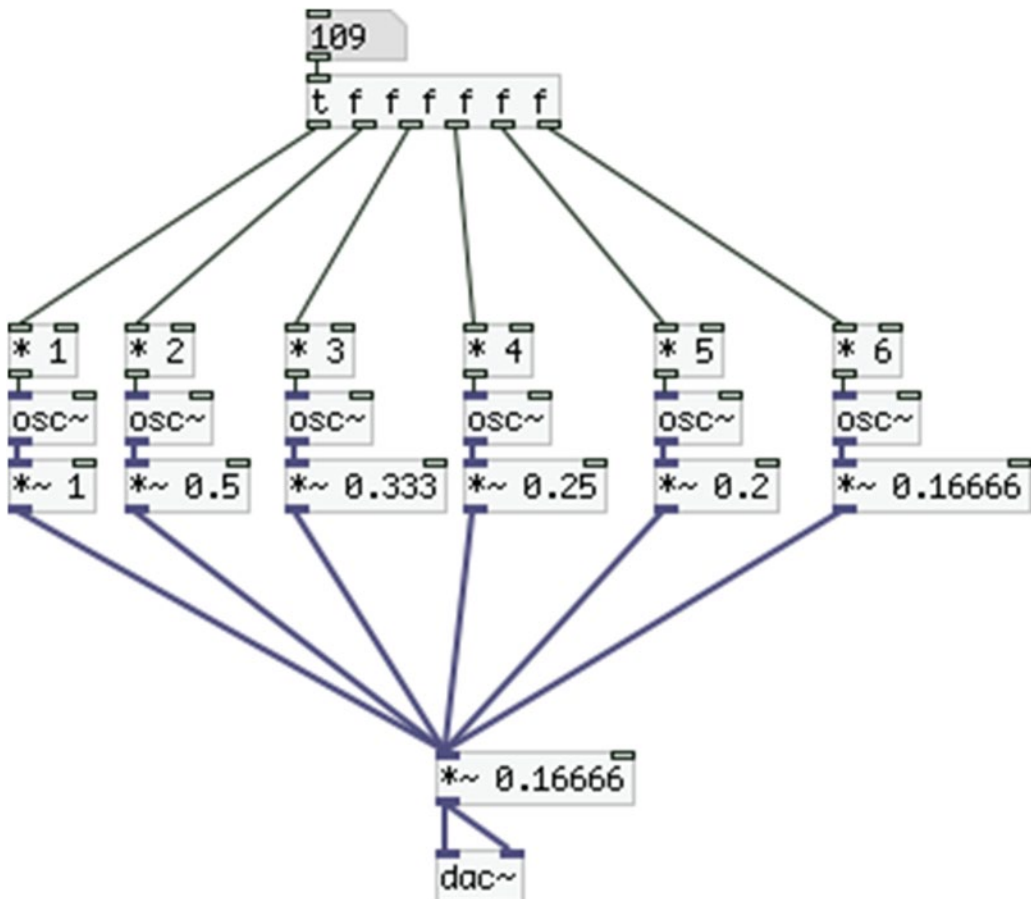
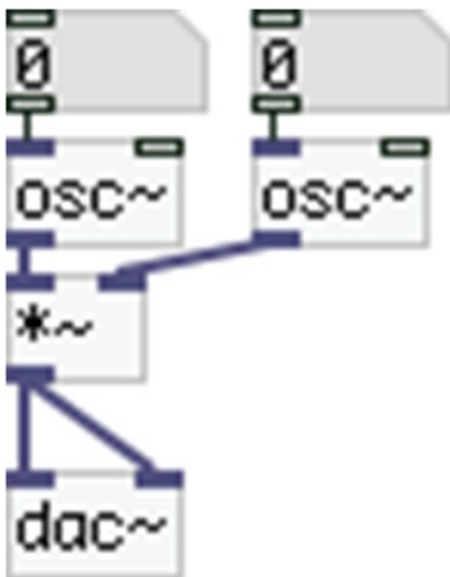
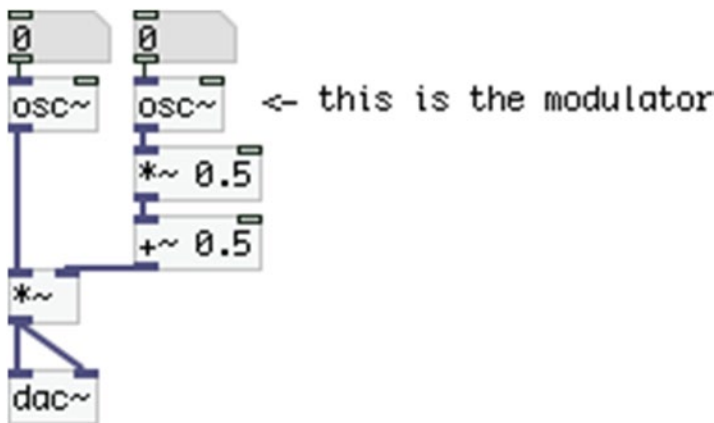

Figure 1-36. Additive synthesis Pd patch
Figure 1-37. A ring modulation patch
Figure 1-38. An amplitude modulation patch
The first technique we're going to look at is called *additive synthesis*, because we use many oscillators (usually sine waves) added together to create more interesting timbres. Figure 1-36 shows an additive synthesis Pd patch.
In additive synthesis, if we want to create a harmonic sound, we provide a base frequency, and we multiply it by the order of each oscillator. For the first oscillator, we multiply it by 1, for the second by 2, and so forth. Something else we do in the patch shown in Figure 1-36 is set the amplitude of each oscillator to the reciprocal of its order, so the first oscillator will have full amplitude, the second will have one half of its amplitude, the third will have one-third, and so forth. Note that multiplying requires less CPU than dividing, so instead of dividing, we multiply each oscillator's output by the reciprocal of its order. Mind the multiplication at the bottom of the patch. When we output more than one signal as they are being added, therefore we must scale them to make sure that their sum won't go over 1 or below -1. To achieve this, we multiply the total output by the reciprocal of the number of signals we send to the speakers; here it's $1 \div 6 = 0.16666$.
Using a lot of oscillators might give nice results, but it requires a lot of CPU, plus it can be cumbersome to create some textures. There are techniques that use only a few oscillators (two at least) and can give very interesting sounds. We'll look into the most basic ones and we'll start with the *ring modulation* (RM). This is a quite simple technique; it is the multiplication of two signals. We'll use sine waves for all the techniques in this section, but you can experiment with any wave form we've already built. Make the patch shown in Figure 1-37.
Lock your patch, turn the DSP on, and start dragging your mouse in the number atoms, or use sliders instead. (Although you might want to multiply their output to a range other than 127; multiply them by 3, for example.) You'll start hearing two tones, which are the addition and the subtraction of the two provided frequencies. For example, if you type **300** in one number atom and **5** in the other, you'll hear the frequencies 305 and 295. Sometimes the subtraction of the two frequencies result in a very low frequency (if, for example, you provide 305 and 300, you'll get 605 and 5), which are not audible by the human ear. Keep on dragging your mouse upward till you start hearing two tones. Experiment a bit till you find some interesting results. You can also combine RM with the additive synthesis patch in Figure 1-36, where one of the two oscillators in Figure 1-37 will be replaced by the additive synthesis patch.
So, the patch in Figure 1-37 changes slightly and becomes the patch in the Figure 1-38.